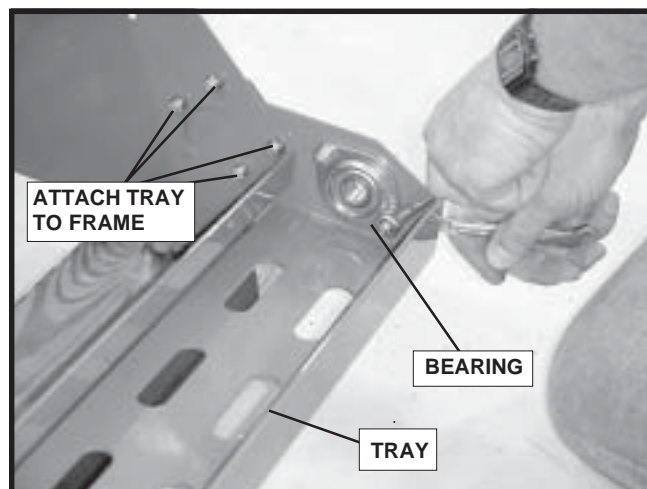

FIGURE 1
9. Install tray matching screw holes in main frame. See Figure 1.
10. Apply bearings on the inside of the tray, **DO NOT** tighten hardware, just snug it. See Figure 1.